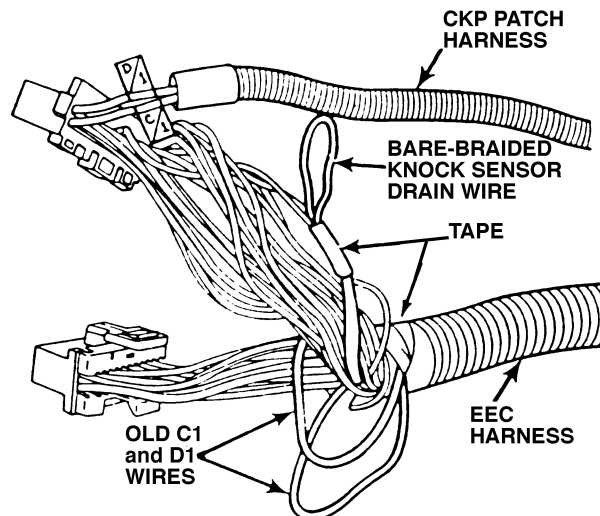

Figure 9.
23. Cut the terminal ends off the old C1 and D1 wires to prevent future use, and tape the two cut wires back to the EEC harness (Figure 9). If the end of the bare-braided knock sensor drain wire is loose, tape it to the EEC harness.